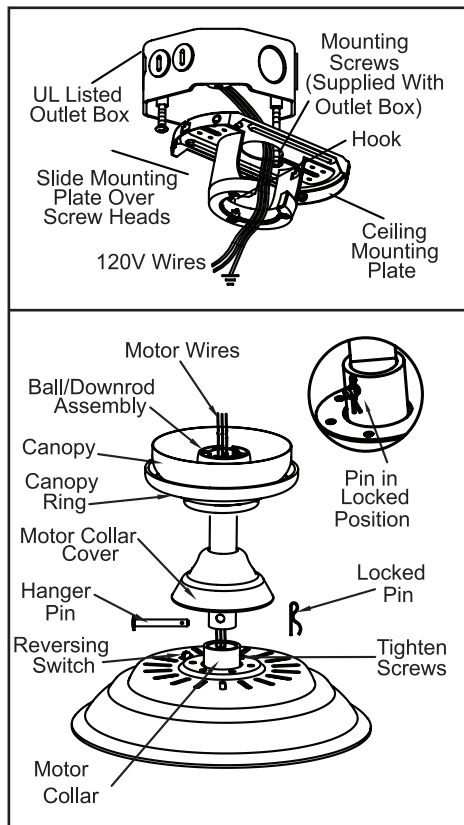

Figure 7
3. Route the wires exiting the top of the fan motor through the decorative motor collar cover then the canopy ring. Make sure the slot openings are on top. Route the wires through the canopy and then through the ball/downrod assembly (Figure 7).
5. Align the holes at the bottom of the downrod with the holes in the collar on top of the motor housing (Figure 7). Carefully insert the hanger pin through the holes in the collar and downrod. Be careful not to jam the hanger pin against
the wiring inside the downrod. Insert the locking pin through the hole near the end of the hanger pin until it snaps into its locked position, as noted in the circle inset of Figure 7.
1. Pass the 120-volt supply wires through the center hole in the ceiling mounting plate as shown in Figure 7.
2. Install the ceiling mounting plate on the outlet box by sliding the mounting plate over the two screws provided with the outlet box (Figure 7). If necessary, use leveling washers (not included) between the mounting plate and the outlet box. Note that the flat side of the mounting plate is toward the outlet box (Figure 7).
The fan shipped from the factory with the reversing switch positioned to circulate air downward. If airflow is desired in the opposite direction, turn your fan off and wait for the blades to stop turning, then slide the reversing switch (located at the top of the motor housing, refer to figure 7 on page 5) to opposite position, and turn fan on again. The fan blades will turn in the opposite direction and reverse airflow.